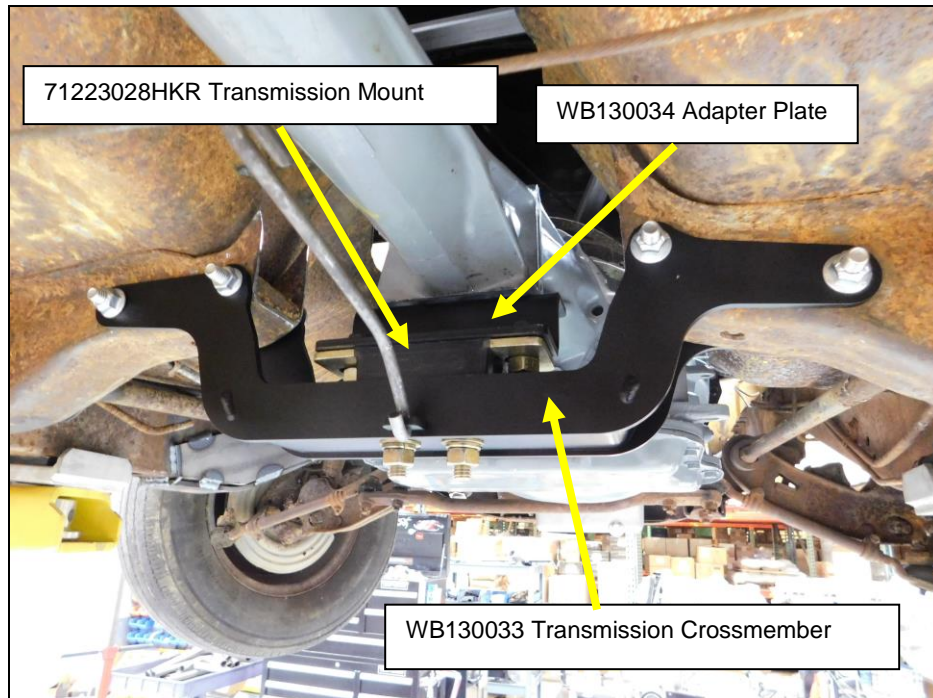

Figure 1
**NOTE:** The transmission mount will be installed between the adapter plate and the **WB130033** transmission crossmember (**Fig. 1**).